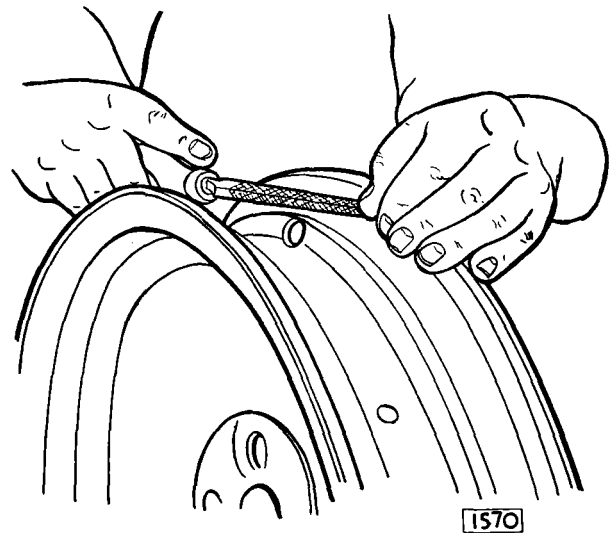

Fig. 14. Removing high spots from weld joint.
4. File or buff away any high spots at the welded joint. (Fig. 14.)